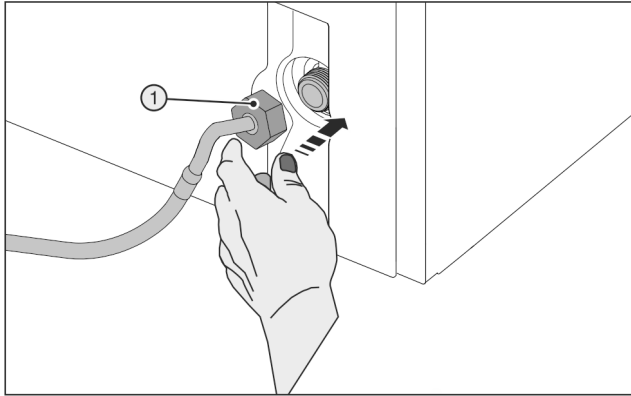

Fig. 29
- ▶ Carefully attach the nut Fig. 29 (1) and screw straight onto the thread.
- ▶ Carefully attach the nut Fig. 29 (1) and use both fingers to screw straight onto the thread so it sits firmly.
- ▶ Use the tool (5) only at room temperature.
- ▶ Tighten the nut Fig. 29 (1) with an auxiliary tool (5) to the maximum torque and until the tool (5) is overtorqued.